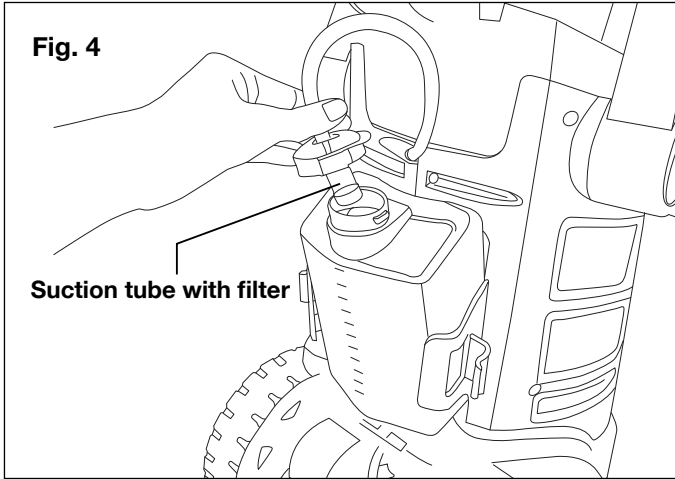

Fig. 4
4. Insert the detergent bottle (bottom end first) into its storage compartment (Fig 3). Then insert the suction tube with filter into the bottle and close it with the cap (Fig. 4).